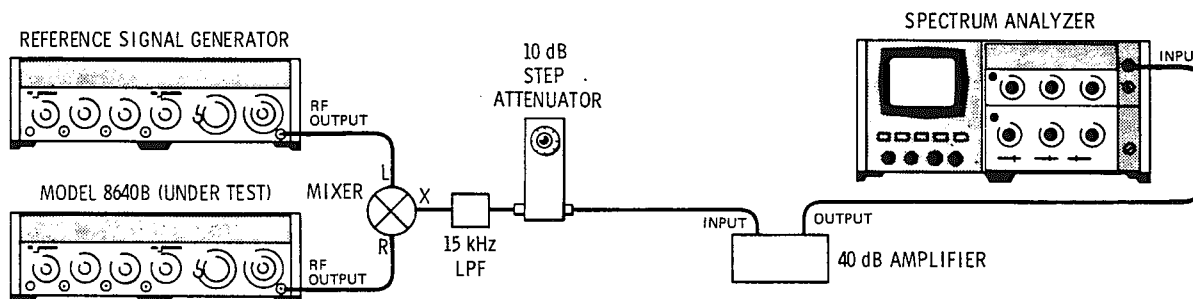

Figure 4-7. Single Sideband Broadband Noise Floor Test Setup
1. Connect equipment as shown in Figure 4-7 after setting test Signal Generator's controls as follows: